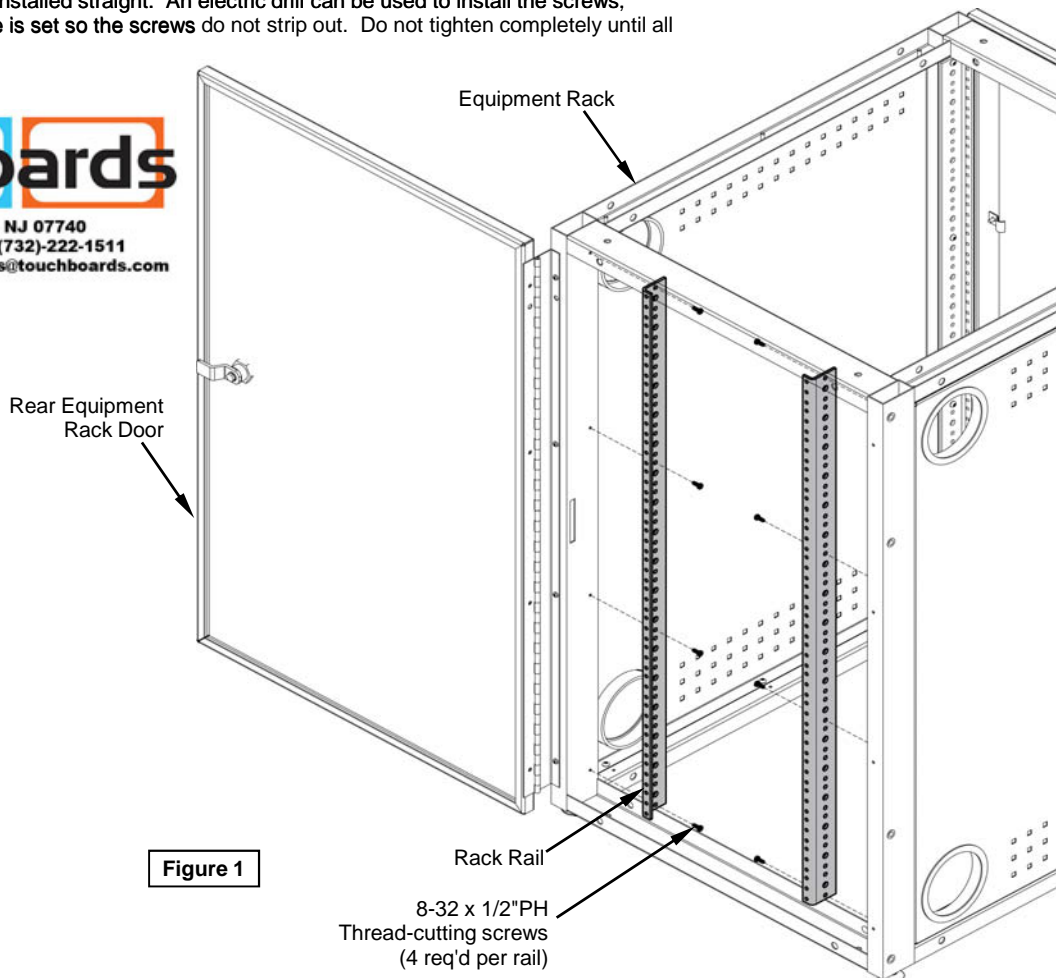

Figure 1
- B. Align each rack rail with the pre-drilled equipment rack mounting holes . **Figure 1**.